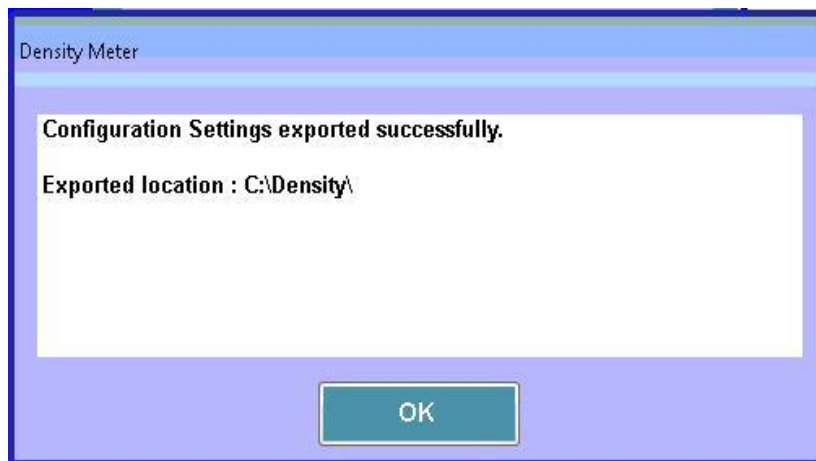

Figure 10.45– Successful Export
- 6) When the export is successful you will see the screen shown in figure 10.45.